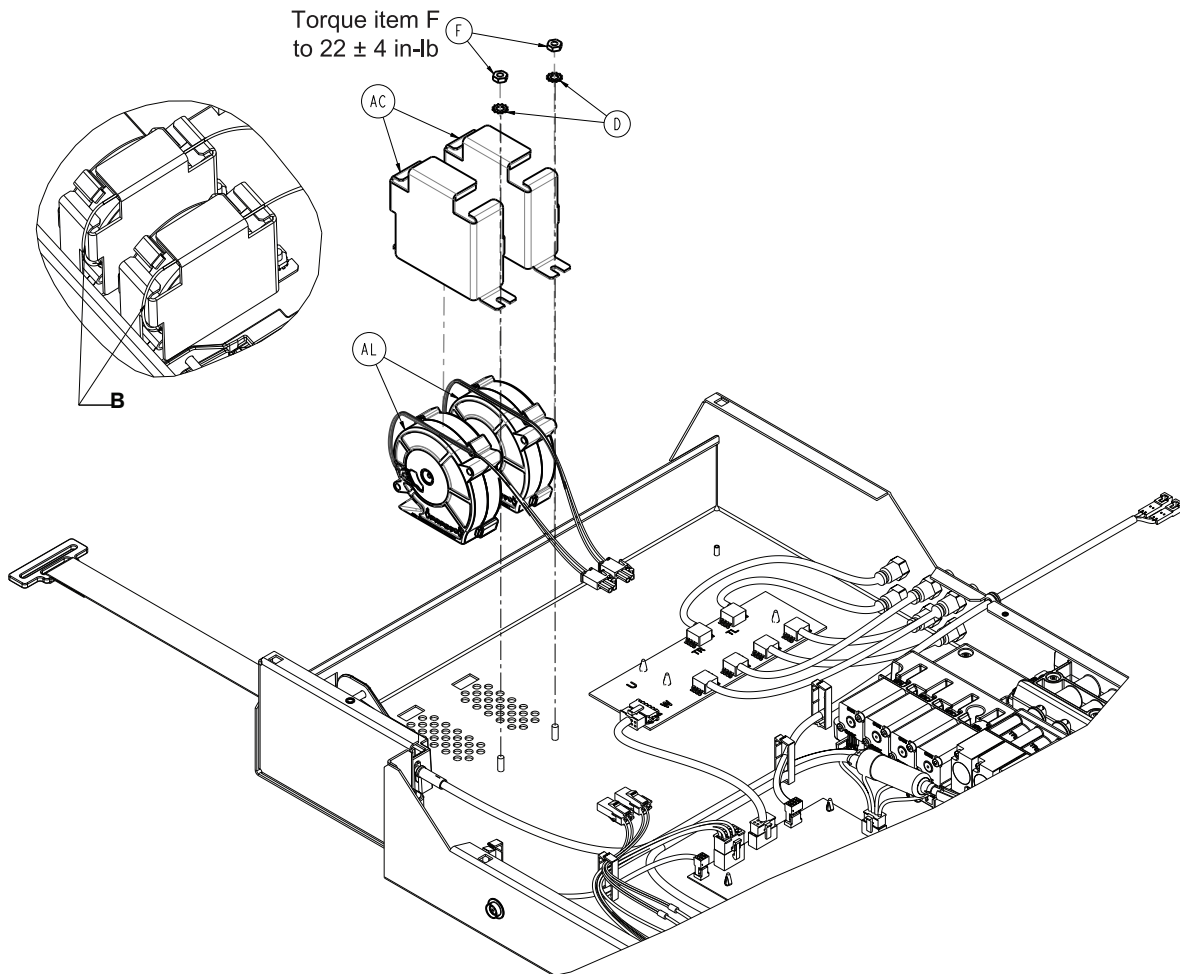

Figure 22 – Cooling fan and cage
3. Using a 5/16" nut driver, remove the nut (F) and the washer (D) that secure the fan cage to the foot box (Figure 22). Save the nut and the washer.